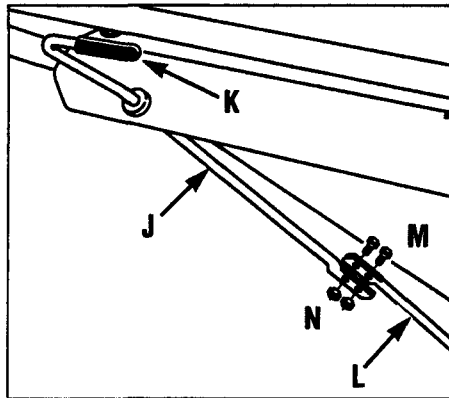

Figure 2-4: Connect top section (J) of clutch lever to bottom section (L).
1. Insert the angled end of the upper clutch lever section (J, Figure 2-4) up through the hole in the lip of the shredder hopper. Slide the vinyl grip (K) onto the handle.
2. Turn the lever so that the handle faces inward, as shown in Figure 2-4. Attach the lever top section (J) to the lever bottom section (L) using two 1/4"-20 x 3/4" screws (M) and 1/4"-20 toplock nuts (N). Tighten securely.